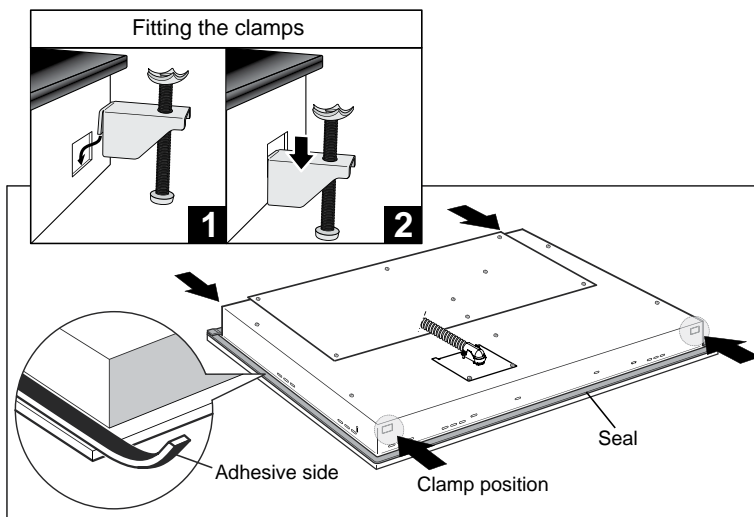

Fig. 6 Preparing the cooktop before installation
- 2 Spread the seal around the edges of the cooktop with the adhesive side facing down, as shown in Figs. 6 and 7. Make sure that the whole perimeter is sealed. Cut off any excess material.
- 3 Mount the supplied clamps (A) and screws (B) onto the cooktop, as shown (without tightening the screws).